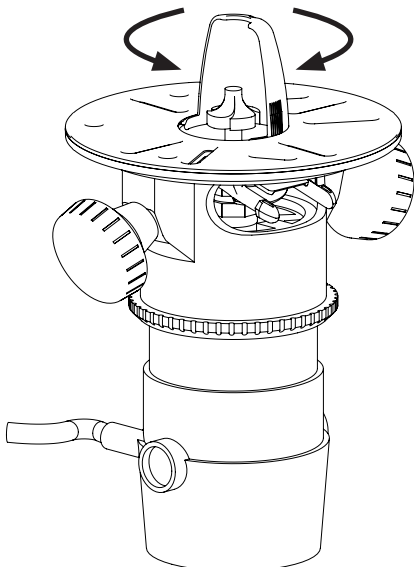

Fig. 6
- Check to make sure the chip cover is seated properly by rotating it (Fig. 6).